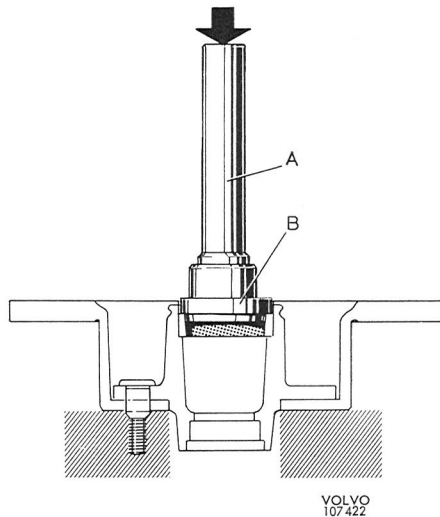

Fig. 7-23. Inner bearing race installation
7. Press in the new bearing races. Use drift 5005 in addition to standard handle 1801 for the inner ring (Fig. 7-23).